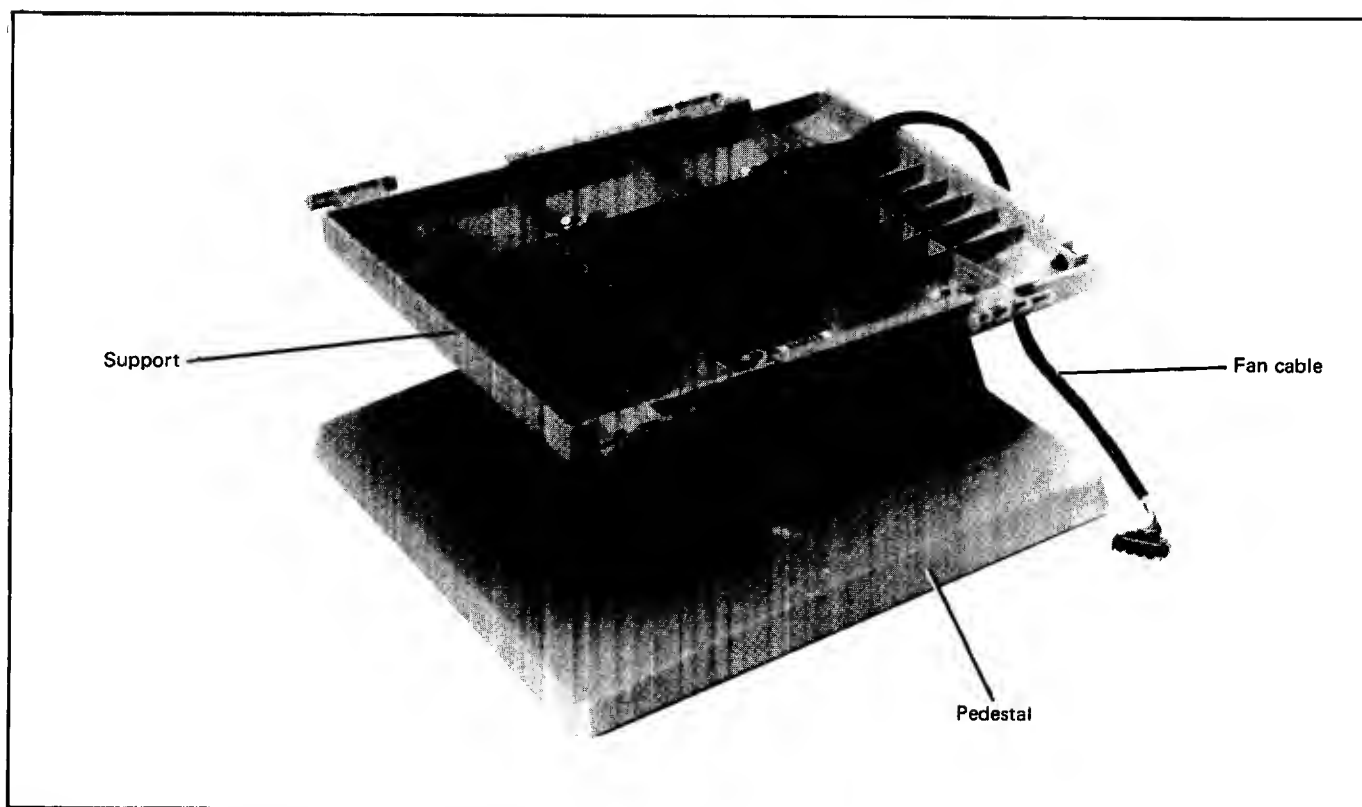

Figure 7-3 Support and Pedestal
1. Remove the four screws and washers securing support to pedestal (figure 7-3)